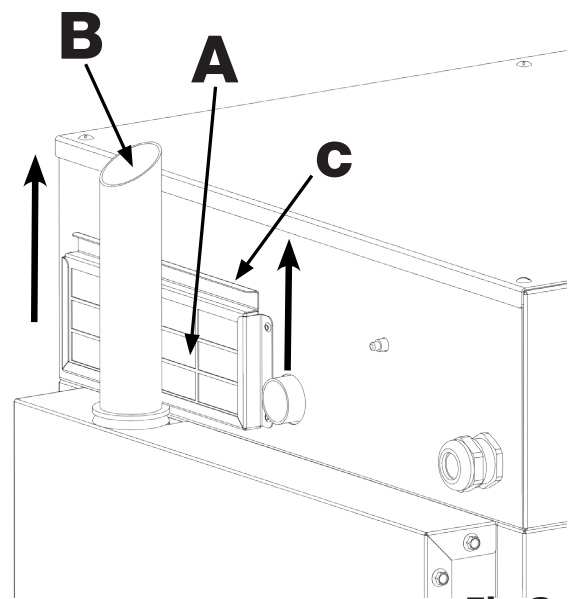

Fig.3
1. Grasp the filter tab (**Ref.C-Fig.3**) and lift it so that the filter slides upwards out of its housing.
The humidity discharge (Ref.B Fig.3) expels the steam that forms inside the cooking chamber. Check that it is always perfectly clean and free from obstructions.